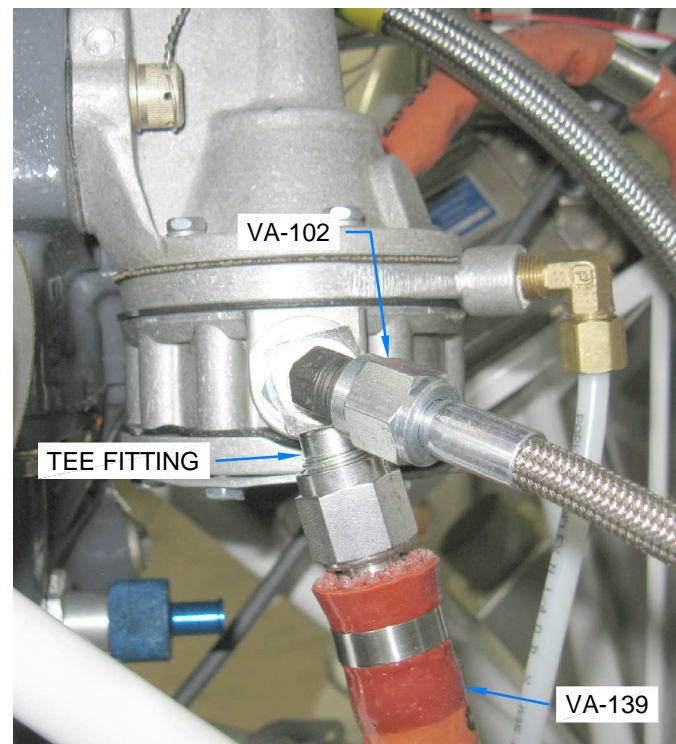

FIGURE 1: HOSES AT FUEL PUMP
Step 1: (Tail Dragger) Install the VA-139 Hose to the tee fitting at the fuel pump outlet as shown in Figure 1.